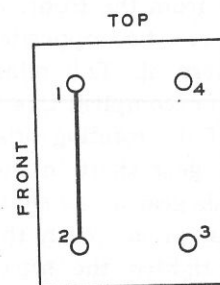

Figure 41—Printer-unit terminal-board connections
b. Drill and ream through the shaft at the already existing hole in the collar, so that the taper pin (396) may be driven in tightly its full length.
(3) When replacing coils, make sure that coil L201 (black scanning) (coil with no extra holes at corners) is next to the printer support piece (381), and that coil L202 (white scanning) (coil with extra holes at two corners) is the outside coil. Place the coils so that the leads of coil L201 may be threaded through the extra corner holes of coil L202. Make connections to the printer-unit terminal board (387) as follows: (See fig. 41.)